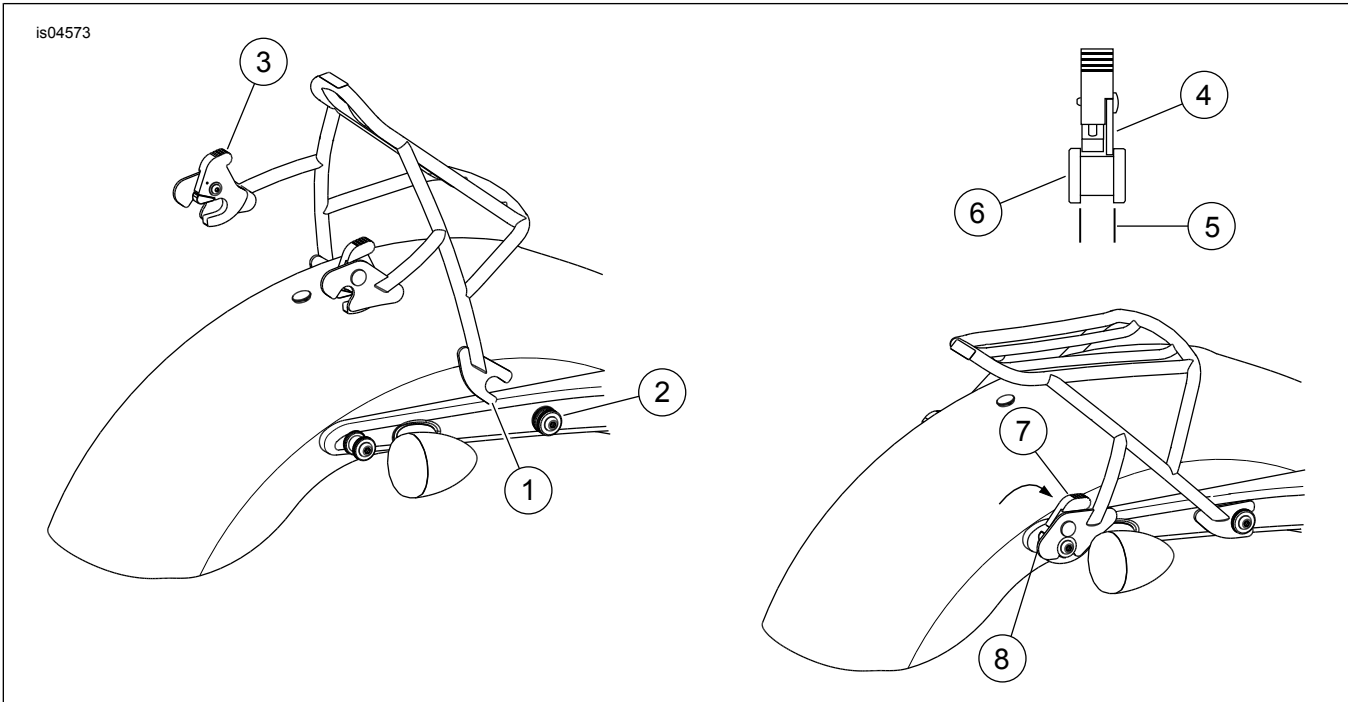

Figure 2. Service Parts: XL Detachable Solo Rack
See Figure 2 and Table 1.
1. See Figure 2. While standing behind the motorcycle, place the front rack notches (1) into the front docking points (2).
1. See Figure 2. To remove the rack, press the release button (8), and pull the rotary latch lever back. Carefully lift the rear of the rack up and pull the rack out of the front docking points.